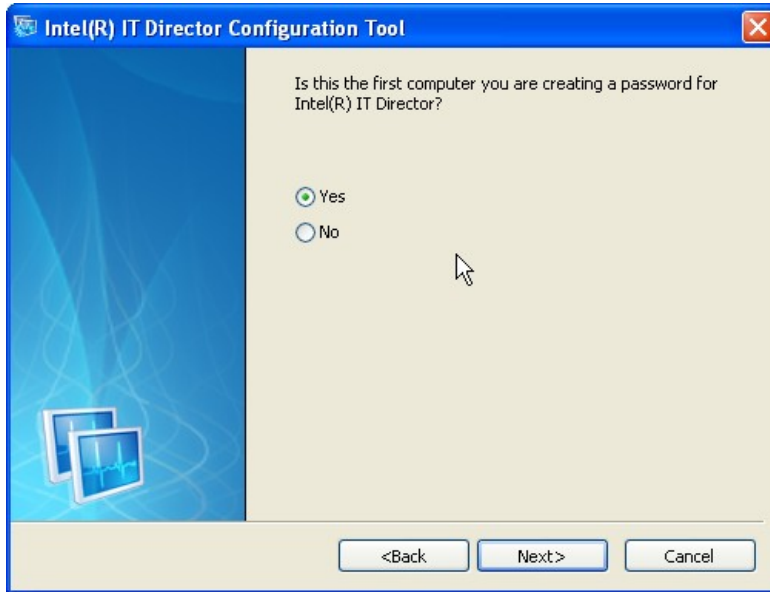

Figure 6-39: IT Director – Creating Password
Step 17: Select whether this is the first computer you are creating a password for IT Director. (**Figure 6-39**).